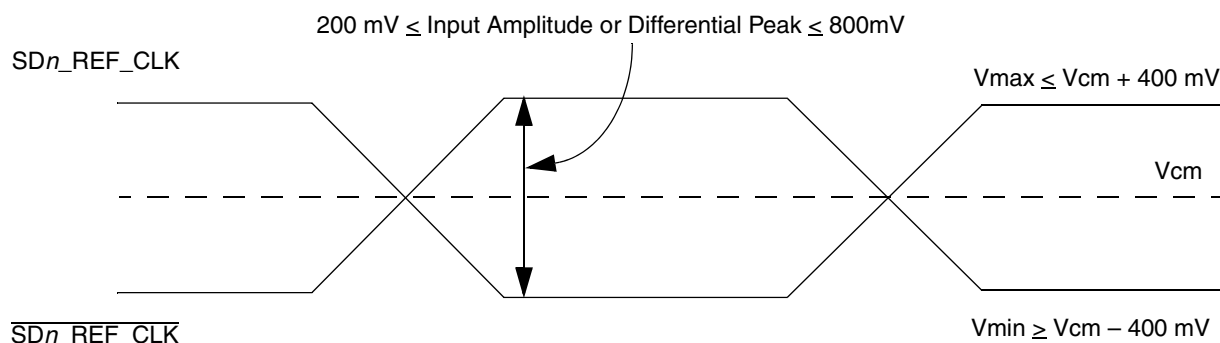

Figure 39. Differential Reference clock input DC requirements (external AC-coupled)
- For **external AC-coupled** connection, there is no common mode voltage requirement for the clock driver. Since the external AC-coupling capacitor blocks the DC level, the clock driver and the SerDes reference clock receiver operate in different command mode voltages. The SerDes reference clock receiver in this connection scheme has its common mode voltage set to SGND_SRDS. Each signal wire of the differential inputs is allowed to swing below and above the command mode voltage (SGND_SRDS). Figure 39 shows the SerDes reference clock input requirement for AC-coupled connection scheme.